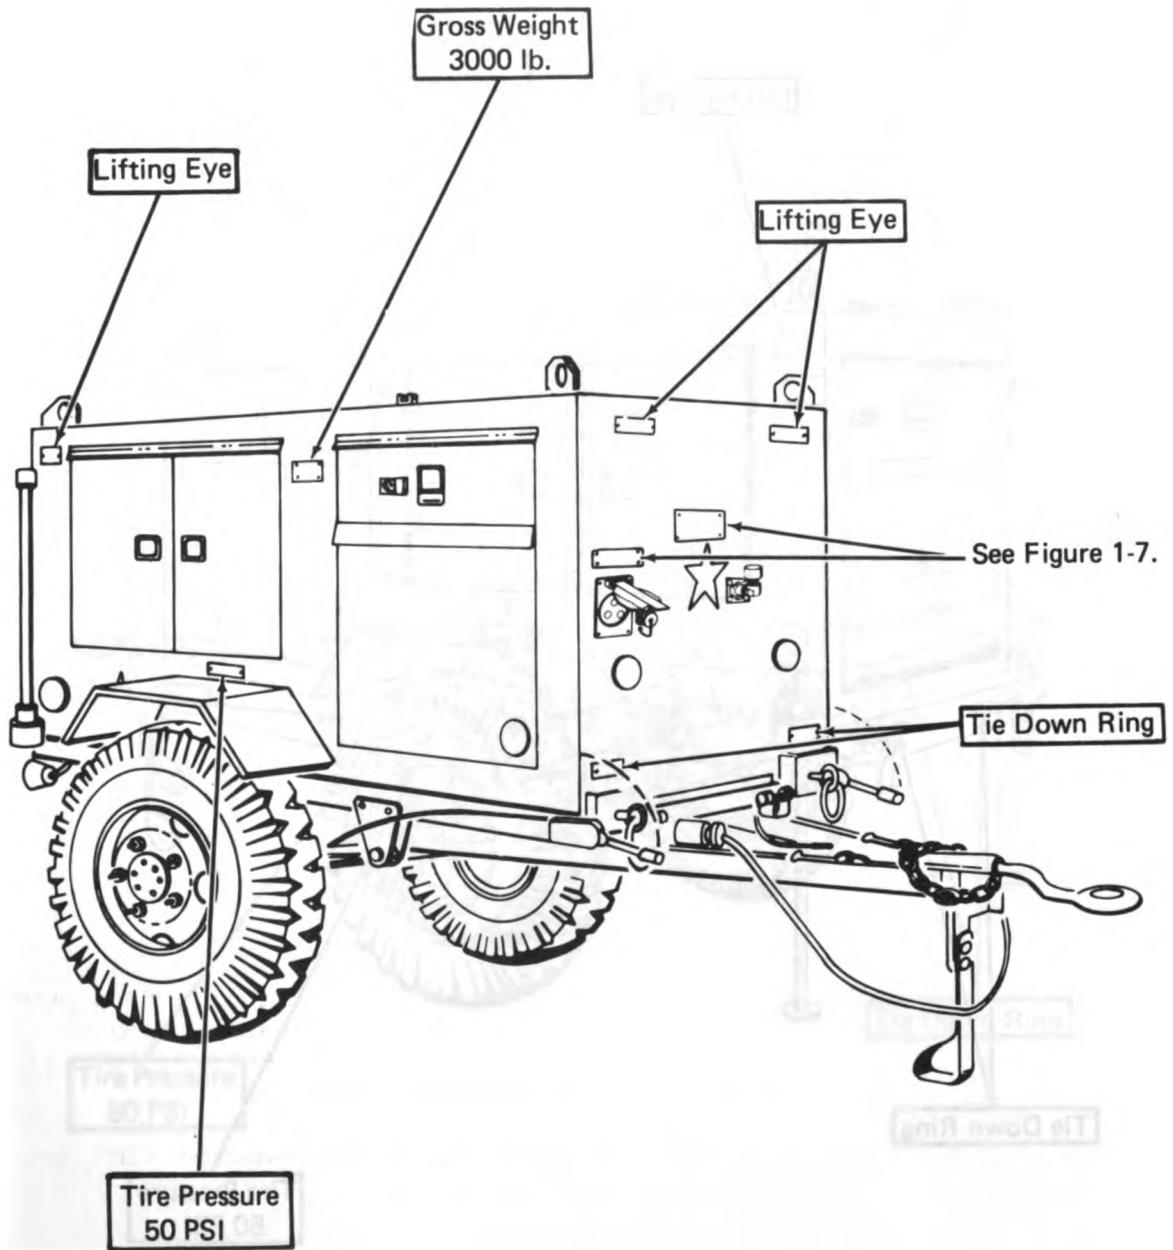

Figure 1-4. HSTRU Data Plates, Curb Front.
- (1) Fabricating hose assemblies
- (2) Fabricating tube assemblies
- (3) Fabricating and replacing O-ring seals
- (4) Pressure Measurement
- (5) Static Proof pressure testing of hydraulic components
- (6) Fault Isolation of hydraulic system failures (Locate faulty components)
- (7) Flushing and cleanup of hydraulic systems
- (8) Transferring hydraulic fluid to and from reservoirs and storage containers
- (9) Washing system components with solvent
- (10) Attaching test instruments with troubleshooting adapter kit
b. Mobility and Transportability. The HSTRU is capable of being towed cross country up to 30 MPH. It can also be moved by aircraft, helicopter, and railroed. A number of power tools are included to make maintenance and repair easier. Most power tools are backed up by hand tools in case of a loss of electrical power. Figures 1-4 through 1-10 show general views of the HSTRU and the location and content of data plates.